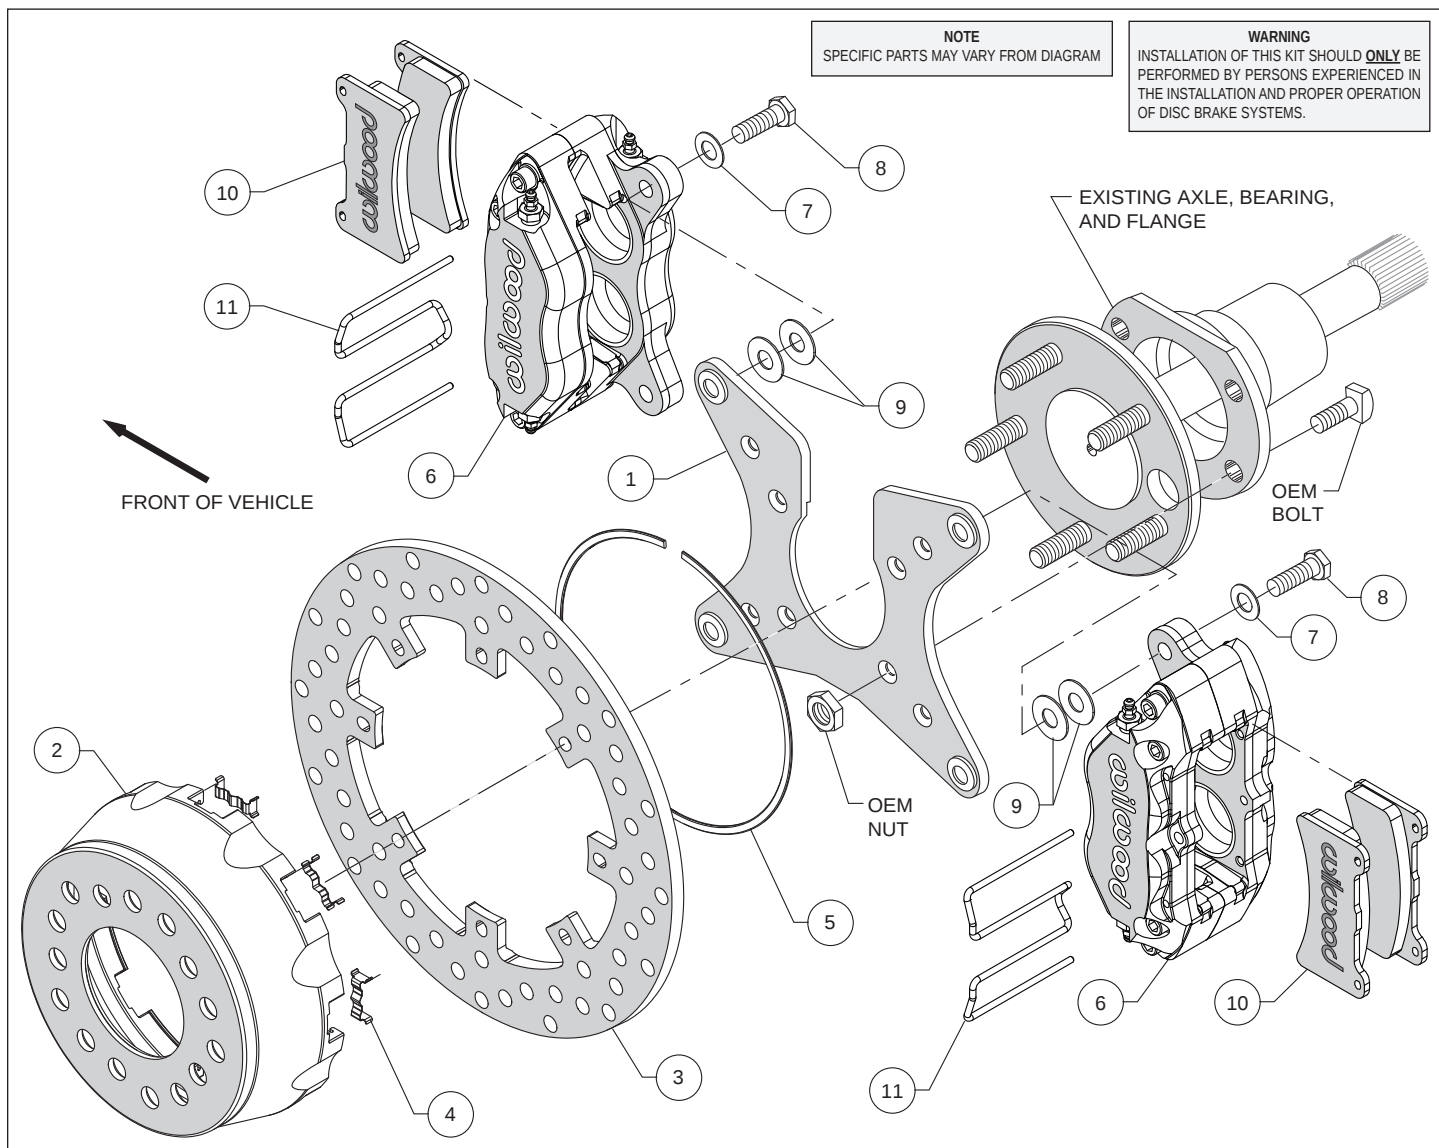

Figure 1. Typical Installation Configuration
Assembly Instructions (numbers in parenthesis refer to the parts list and Figure 1 on the preceding pages): **CAUTION:** All mounting bolts must fully engage clinch nuts. Be sure to check that all bolts are either flush or protruding through flanged side of clinch nut after shimming, Figure 5.
- Install the caliper mounting bracket (1), with the slot for the axle pointing upward, to the housing flange using the OEM bolts and nuts, as shown in Figure 1 and Photo 1. Ensure that the caliper mounting ears on the bracket are oriented fore and aft on the car, with the heads of the clinch nuts facing outboard, Photo 1. Apply red *Loctite*® 271 to the OEM bolt threads and torque to OEM specifications.
- Insert the dynamic mount wear plates (4) into the slots in the hat (2) making sure the tabs snap in place, Photo 2. Orient the rotor (3) as shown in Figure 1 and Photo 3, with the flush mount tab side facing the hat. Attach the rotor to the hat using snap ring (5) by pushing down on the rotor and installing the ring into the groove in the hat, as shown in Photo 4. Ensure that the ring is fully engaged in the groove.
- Align the correct hole pattern in the hat (2) with the axle stud pattern and slide the hat/rotor assembly onto the axle hub. **NOTE:** The hat must fit flush against the axle flange or excessive rotor run out may result. Install three lug nuts (finger tight) to keep the hat/rotor in place while continuing with the installation. **NOTE:** Some OEM and aftermarket axles come with stud sizes larger than 0.50" diameter. Verify stud size, and if necessary, have a qualified machine shop drill the hats to the correct size.
- NOTE:** Please reference the caution statement at the beginning of the assembly instructions. Mount one caliper (6) onto the mounting bracket (1) using bolts (8) and washers (7), as shown in Figure 1. Initially place two .035" thick shims (9) on each bolt between the caliper and the bracket, Photo 5. Temporarily tighten the mounting bolts and view the rotor (3) through the top opening of caliper. The rotor should be centered in the caliper, Photo 6. If not, adjust the caliper by adding or subtracting shims between the bracket and the caliper. Always use the same amount of shims on each of the two mounting bolts. **NOTE:** The end of each bolt must be flush with or slightly protruding from the head of the clinch nut. If necessary, place spare shims between washer and caliper mounting ear to achieve the proper clinch nut engagement, as shown in Figure 5. Once the caliper alignment